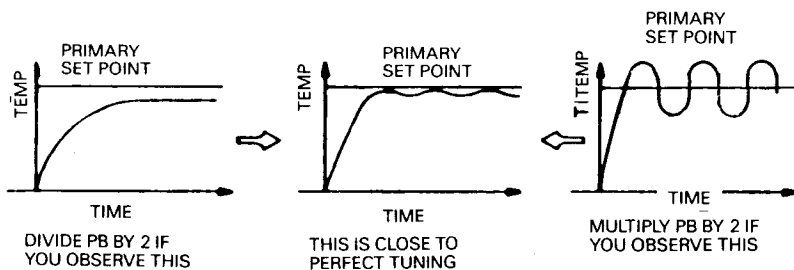

Figure 4-5. Temperature Oscillations
4. If there are no regular oscillations in the temperature, divide the PB by 2 (see Figure 4-5). Allow the process to stabilize and check for temperature oscillations. If there are still no oscillations, divide the PB by 2 again. Repeat until cycles or oscillations are obtained. Proceed to Step 5.